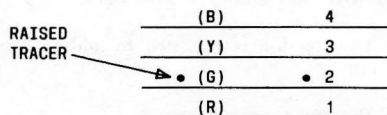

Fig. 1—Conductor Identification of B Station Wire
- (6) Always match the wire pairs when making a tap, splice, or extending a wire run to ensure correct polarity of conductors.
- (7) Identification of individual conductors may be determined by locating the raised tracer dot on the surface of the B station wire and counting the conductors as shown in Fig. 1.
- (8) Conventional station wiring colors [(BK), (Y), (G), (R)] assigned to the conductors in relation to the tracer are shown in Fig. 1. The associated numbers relate to the designations in the terminals, terminal base, etc.